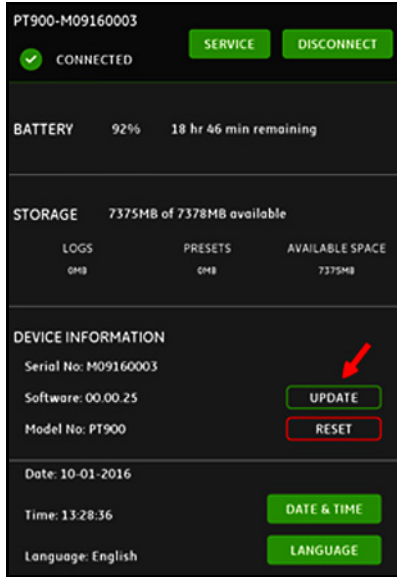

Figure 106: UPDATE Button in TRANSMITTER Menu
- In the APP TRANSMITTER menu, click the **UPDATE** button (see *Figure 106* below) to start the update.